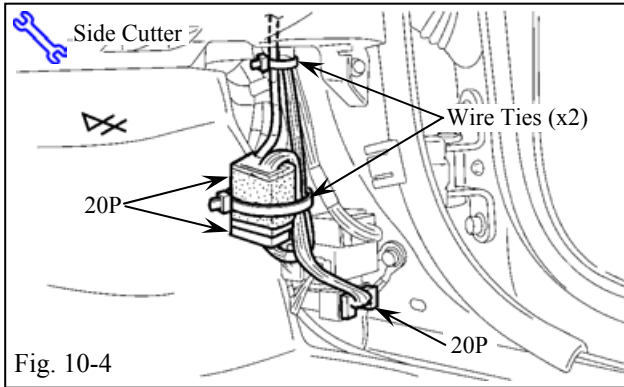

Fig. 10-4
- (d) Secure the white 20P connectors to the vehicle harness with one wire tie. (Fig. 10-4)
- (e) Secure the V3 harness to the vehicle harness with one wire tie. (Fig. 10-4)